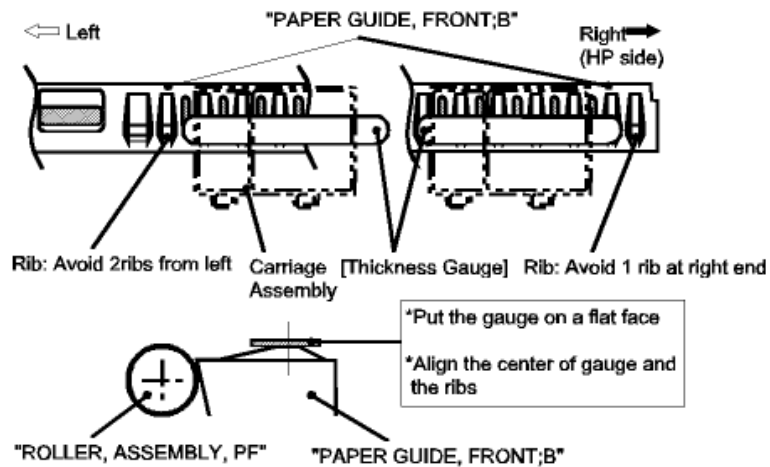

Figure 5-2. Setting the Thickness Gauge
3. Move the carriage to the center and set the thickness gauge (t=1.14mm) on the fixed position of Front Paper Guide as you can see in the following figure 5-2.